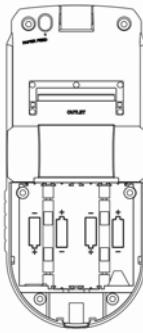

Fig.2-3
- 1) Open the battery cover and you can see the battery polarities as shown in Fig.2-3.